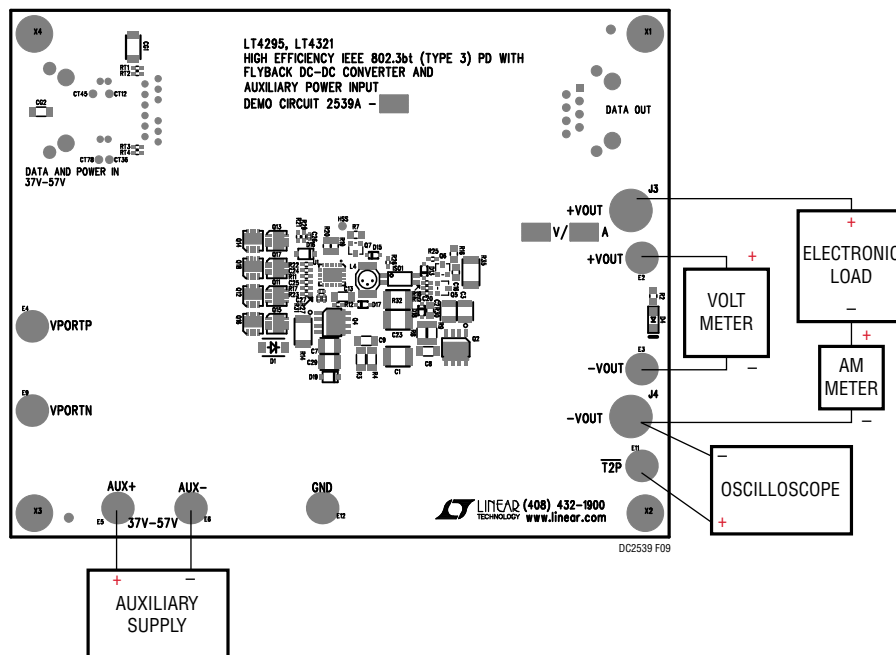

Figure 9. Setup Diagram for Auxiliary Supply Input
1. Place and connect test equipment (voltmeter, ammeter, oscilloscope, and electronic load) as shown in Figure 9.
3. Connect the output of the auxiliary supply to the DC2539A as shown in Figure 9. Turn on the auxiliary supply and set its current limit to 2A. Then increase its output voltage to 48V.
6. Verify  $\overline{T2P}$  response with an oscilloscope as shown in Figure 9. The  $\overline{T2P}$  response during auxiliary power operation is: 75% Logic High/25% Logic Low, Toggle at  $976Hz \pm 7\%$